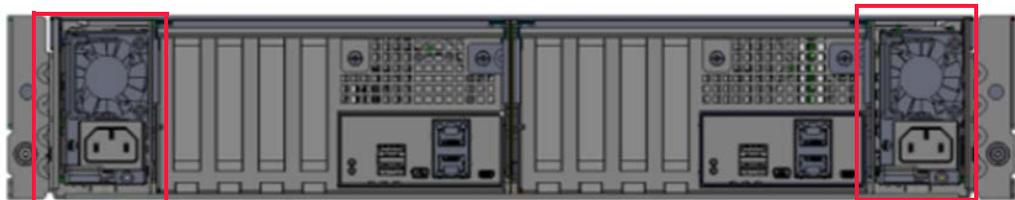

Figure 4.6 PM jacks
1. Verify that both power cords are unplugged from the PM jacks on the rear of the enclosure. Refer to Figure 4.6 for the location of the jacks.